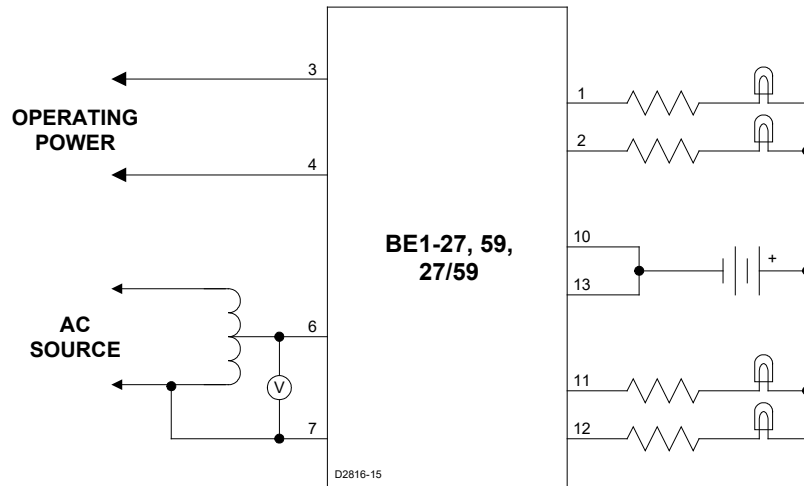

Figure 5-1. Pickup and Dropout Test Circuit Diagram
Minimum test equipment required for relay testing and adjustment is listed below. Refer to Figures 5-1 and 5-2 for the test setups.
1. Connect the test circuits shown in Figure 5-1 as necessary for the functions included in your relay model. See Table 5-1. Turn all undervoltage pickup controls fully CCW and all overvoltage pickup functions fully CW. Set all time delay controls to 00. Adjust T1 to nominal voltage for your sensing input range as indicated below.